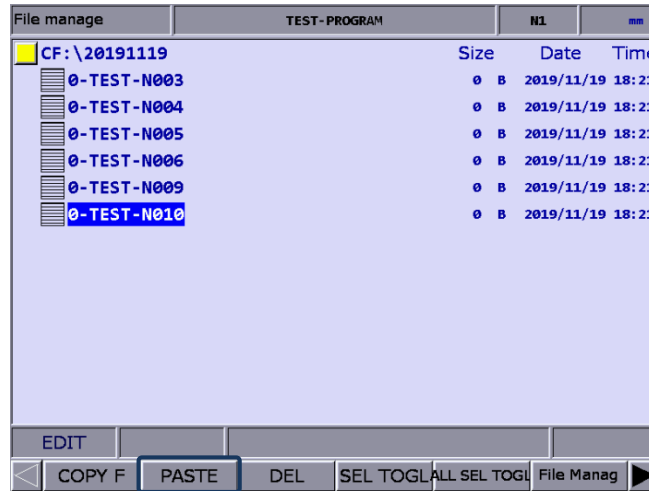

Figure 7.6.2
- (5) After completing the selection, press **COPY F**.
- (6) Go to another directory and press **PASTE** to paste the selected files, as shown in Figure 7.6.2.